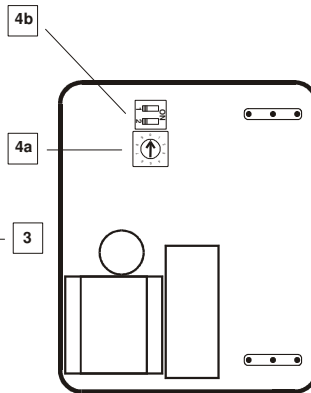

figure 2
Different functions can be adjusted with the selector switch (4a), as shown in figure 2. With the selector switch a total of 12 switch positions (0-9, A and B) can be selected. They are divided into 3 groups with 4 positions respectively. Each of the 3 groups is responsible for 1 function to be achieved with remote switches or pushbuttons. Within each group a reflection correction with 4 switch positions can be achieved. Basically always the third position in each group has been preadjusted (2,6 or A).
The function selection switch is placed on the reverse side of the mounting plate (figure 2). In each function the device works as a Constant light control with motion detection. The difference is the function of the Change over switch (2) and the function of the remote adjustments.